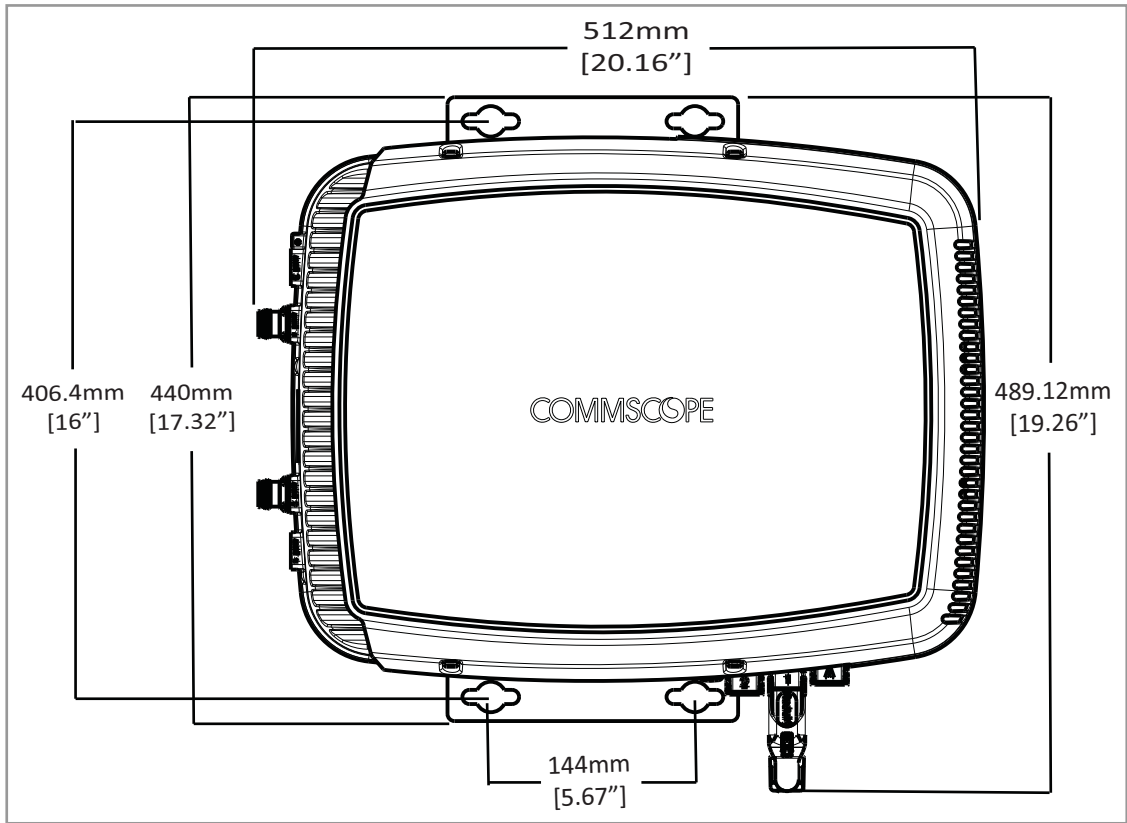
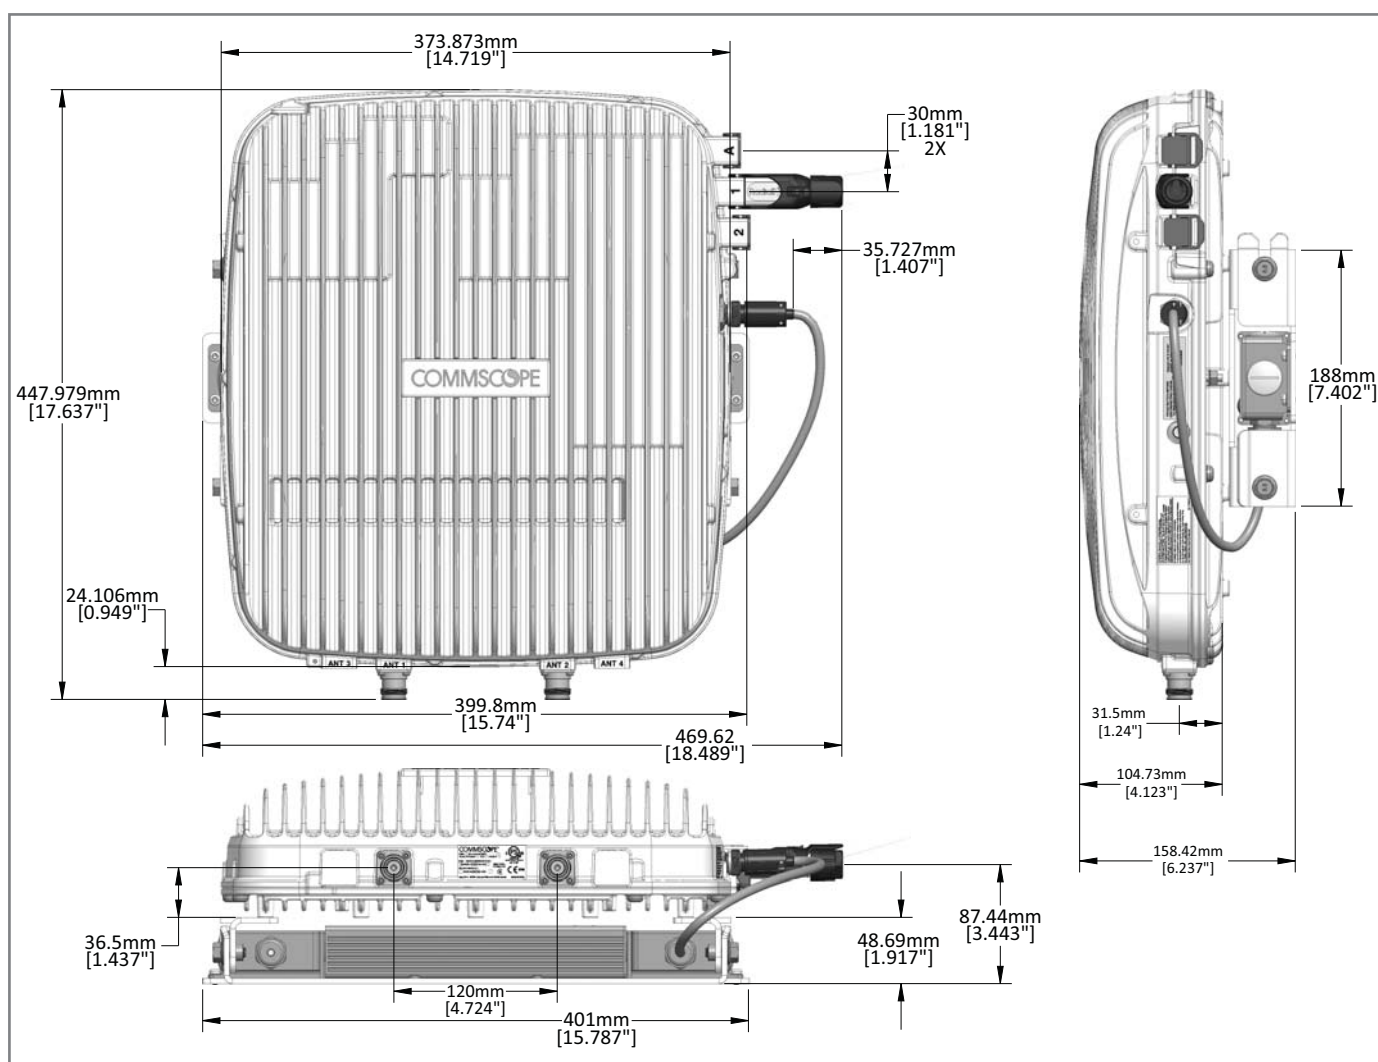

Figure 3. Mounting Dimensions for a CAP L with the Flat Mounting Bracket Kit
Figure 5. Mounting Dimensions for a CAP L Mounted with the AC/DC Power Supply Kit
- Use the dimensions shown in Figure 3 on page 20 through Figure 5 on page 21.